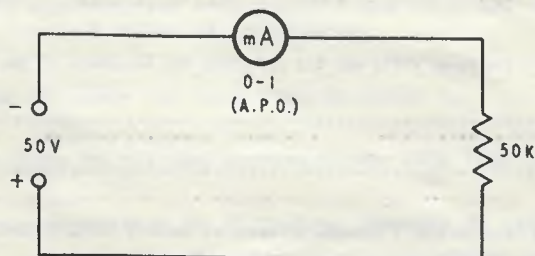

FIG. 2.
STEP 5. Connect the circuit as shown in Fig. 2.